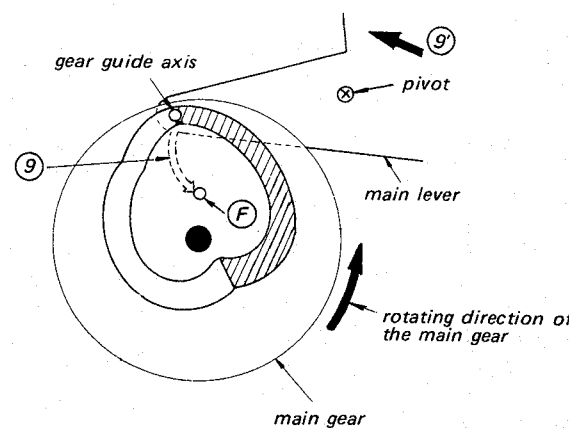

Fig. 1-7.
3. Once the revolving center gear engages the sub-gear (L), the main gear will commence to rotate in the counterclockwise direction due to the driving force supplied by the motor. It will stop again in the position shown in Fig. 1-7.
1. While the record is being played, the main gear and main lever are in the positions as shown in Fig. 1-7.
3. The gear guide axis at the tip of the main lever is moved across to position ⑥ by following the curved path ⑨ due to the guiding action
of the shaded portion of the groove in the heart-shaped cam positioned on the main gear. The main lever consequently moves across in the direction of the arrow ⑨ (see Fig. 1-7).